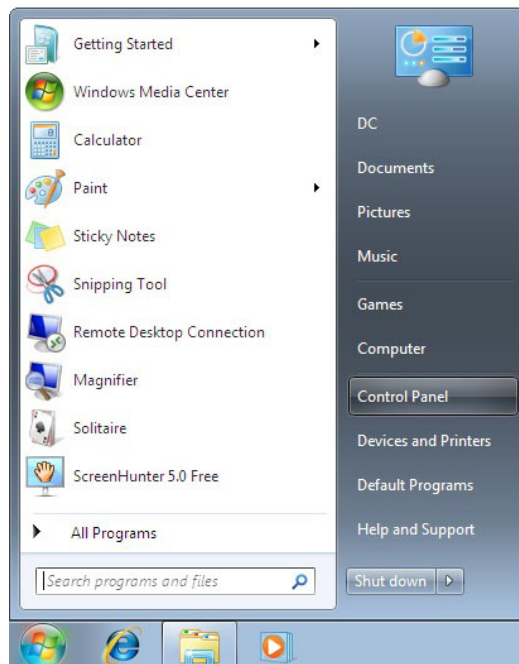

Figure 6-12: Access Windows Control Panel
Step 1: Open Windows Control Panel from the Start menu (Figure 6-12).